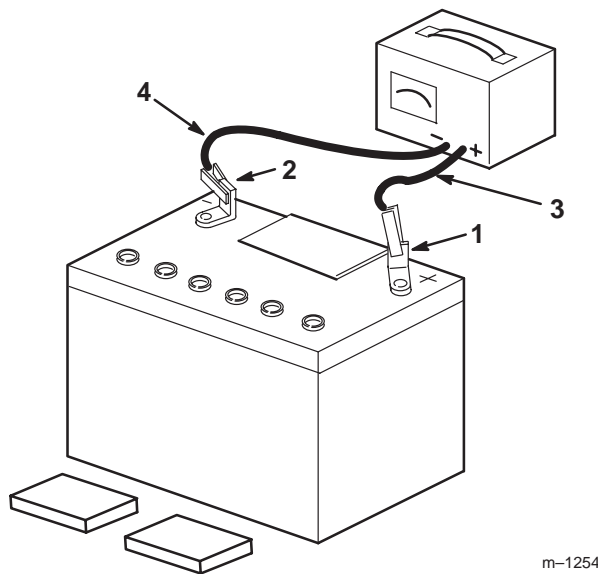

Figure 7
3. Leave the covers off and connect a 3 to 4 amp battery charger to the battery posts (Fig. 7). Charge the battery at a rate of 4 amperes or less for 4 hours (12 volts).
- When the battery is fully charged, disconnect the charger from the electrical outlet then from the negative and positive battery posts (Fig. 7).